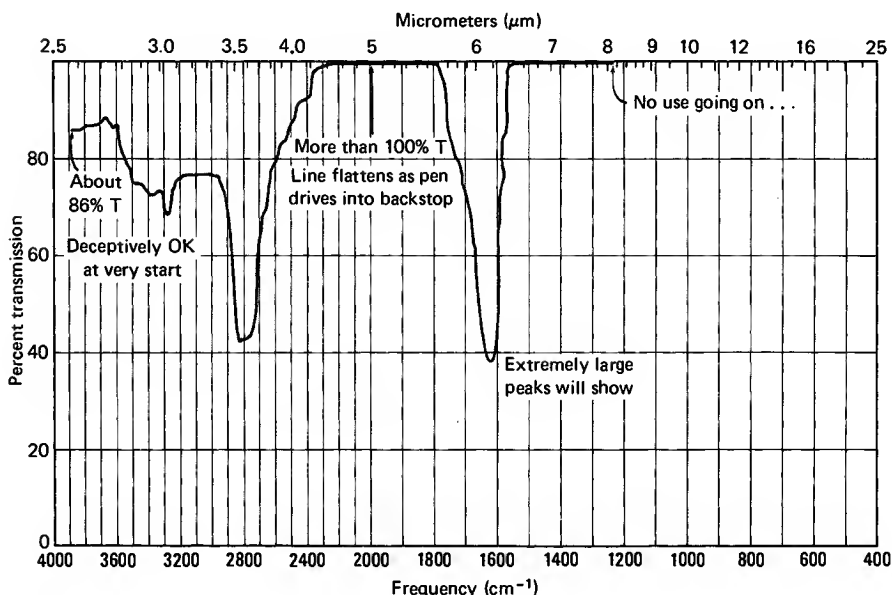

Fig. 130 An IR with an unruly baseline.
8. Now *slowly, carefully* move the pen carriage manually so that the instrument scans the entire spectrum. *Watch the pen!* If the **baseline** creeps up and goes off the paper (Fig. 130), this is not good. Readjust the 100% control to keep the pen on the paper. Now keep going, slowly, and